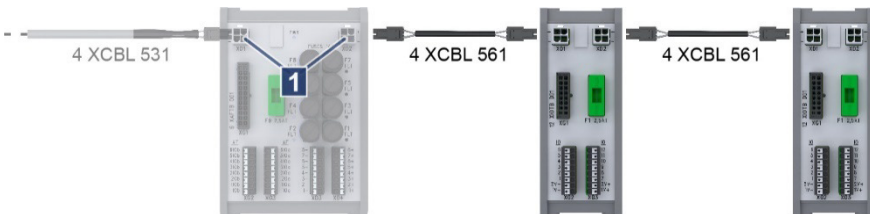

Fig. 6-11: Power supply connected to XAFTB
3. Plug the power supply cable 4 XCBL 531 into terminal *XD1* or *XD2* on terminal block XAFTB (→ Fig. 6-11/1).
Then continue to route the power supply with the cables 4 XCBL 561 of terminal block XAFTB to terminal blocks XIOTB (→ Fig. 6-11).